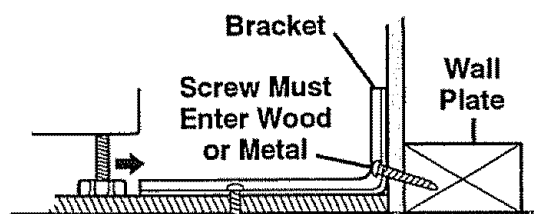

Fig. 2
2. **Wall:** Drill an angled 1/8" pilot hole (as shown in **Fig. 2**) in the center of each pre-marked wall hole position (a nail or awl may be used if a drill is not available).
- B. Mount the **ANTI-TIP** bracket with the 4 screws provided as illustrated in **Fig. 2**